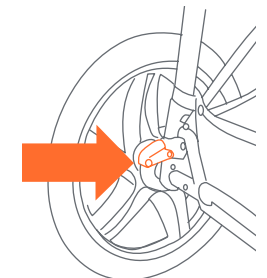

Fig. 11
- 11)** • Locate the 2 rear brakes behind the stroller on the right and left of the axle (Fig. 11).